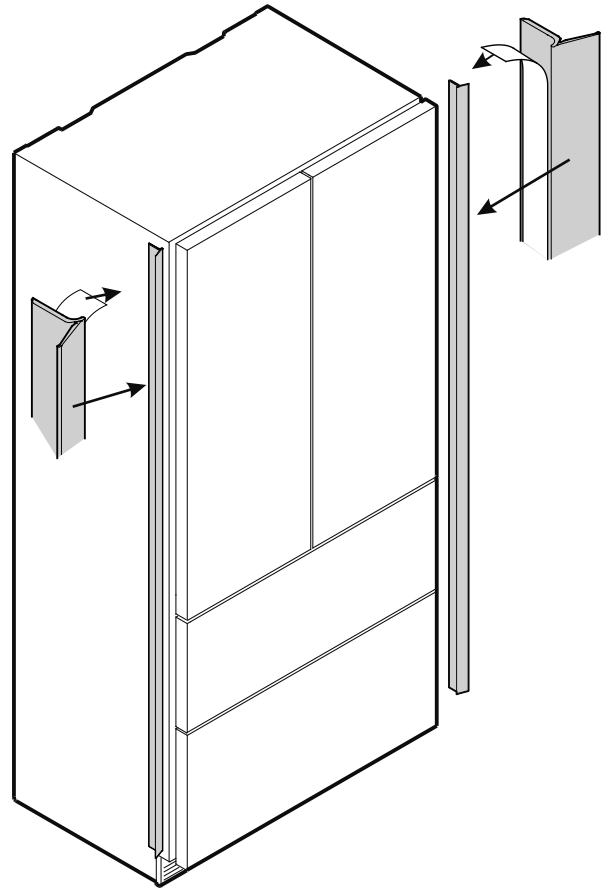

Figure 12
Cover strips - Figure 12
- Remove the cover band from the strips and stick them to the left and right front edge of the appliance housing (Figure 12).